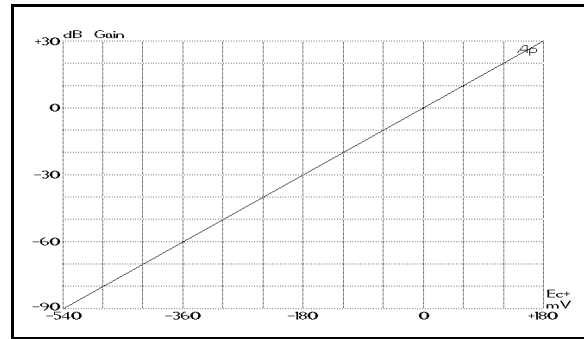
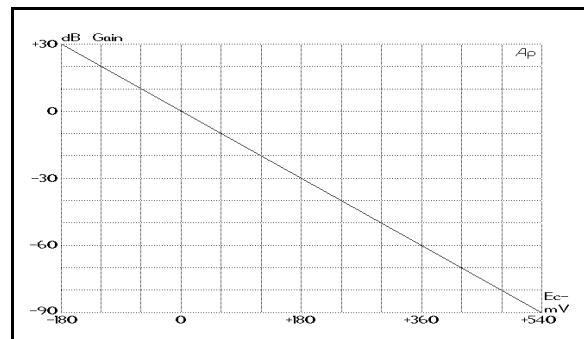

Figure 6. Gain vs. Control Voltage (Ec+, Pin 2) at 25°C
Figure 7. Gain vs. Control Voltage (Ec-, Pin 3) at 25°C
*negative* control port. Because of the exponential characteristic, the control voltage sets gain *linearly in decibels*. Figure 6 shows the decibel current gain of a 2181 versus the voltage at Ec+, while Figure 7 shows gain versus the Ec-.